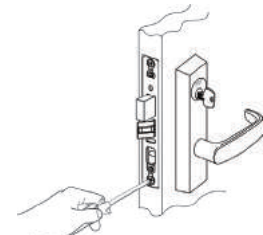

Figure 8
5. Tighten the lockbody screws. (Figure 8)